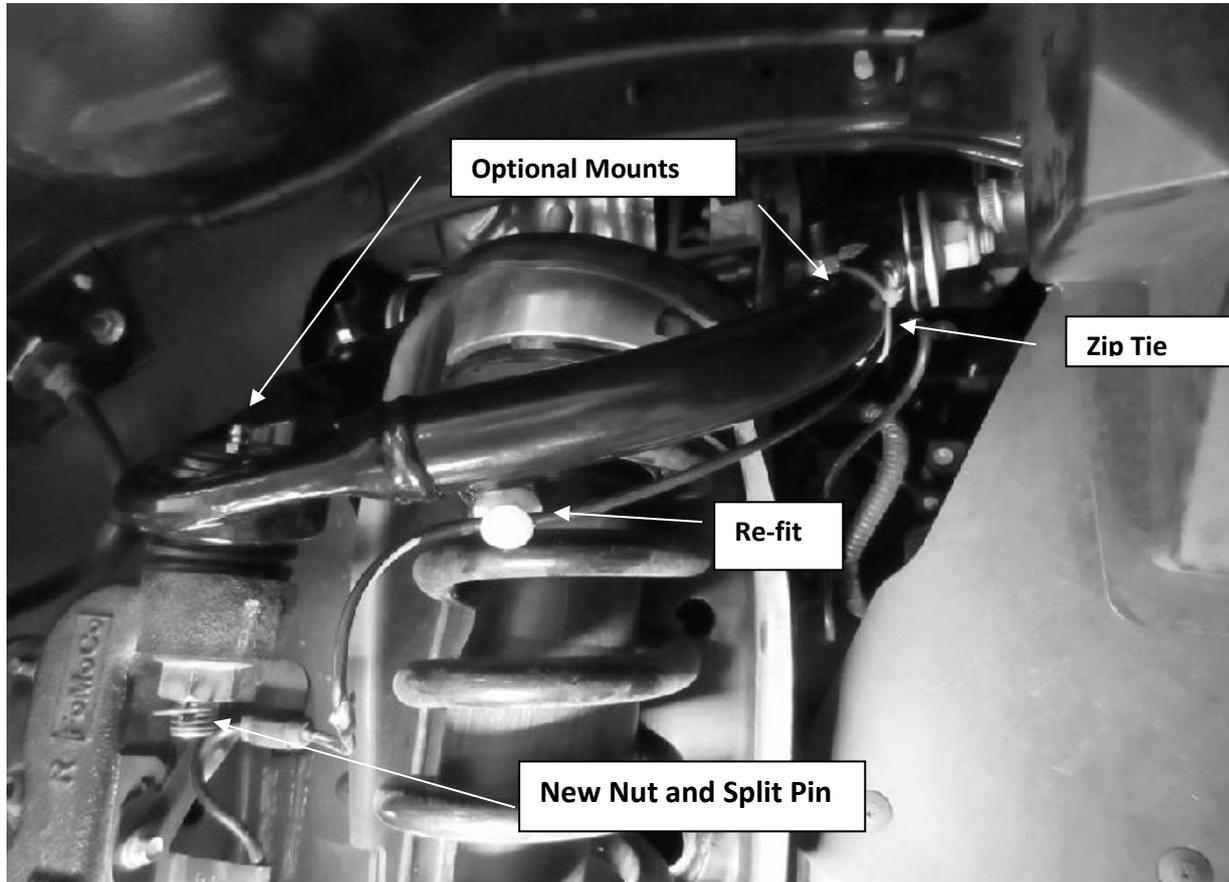

Fig 2 Reassembly
11. Re-attach the ABS wiring bracket to the arm using the front mount, optional mounts and supplied zip tie as required. (See Figure 2)